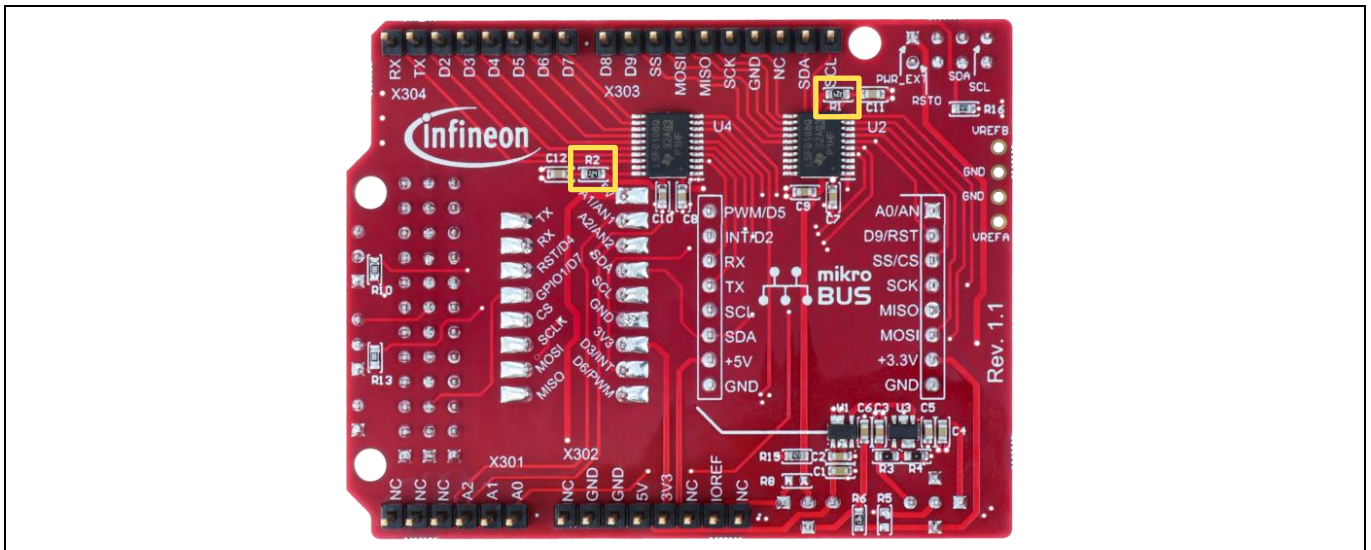

Figure 6 Disable level shifters on the bottom side
- Disable level shifters by removing R1 & R2 on the bottom side, see Figure 6